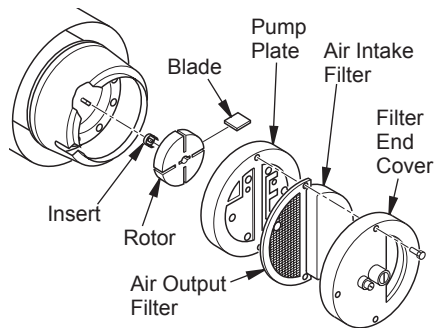

Figure 31 - Rotor Location
1. Remove filter end cover screws using 5/16" nut driver (see Figure 31).
5. Remove rotor, insert, and blades (see Figure 31).